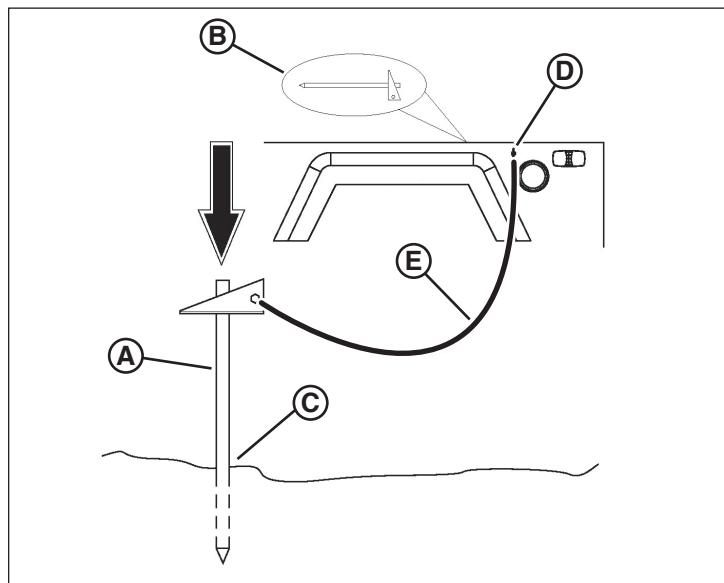

Figure 13
2. Remove the ground rod (**A**, Figure 13) from its storage location inside the engine compartment (**B**).
3. Select a point in the work site ground (**C**, Figure 13) not more than 5 feet from the ground lug (**D**), located on the left side of the light tower trailer toward the rear. Using a mallet, drive the ground rod securely into the ground.
4. Attach the ground rod cable (**E**, Figure 13) between the ground rod and the ground lug. Make sure the cable connections are tightened.